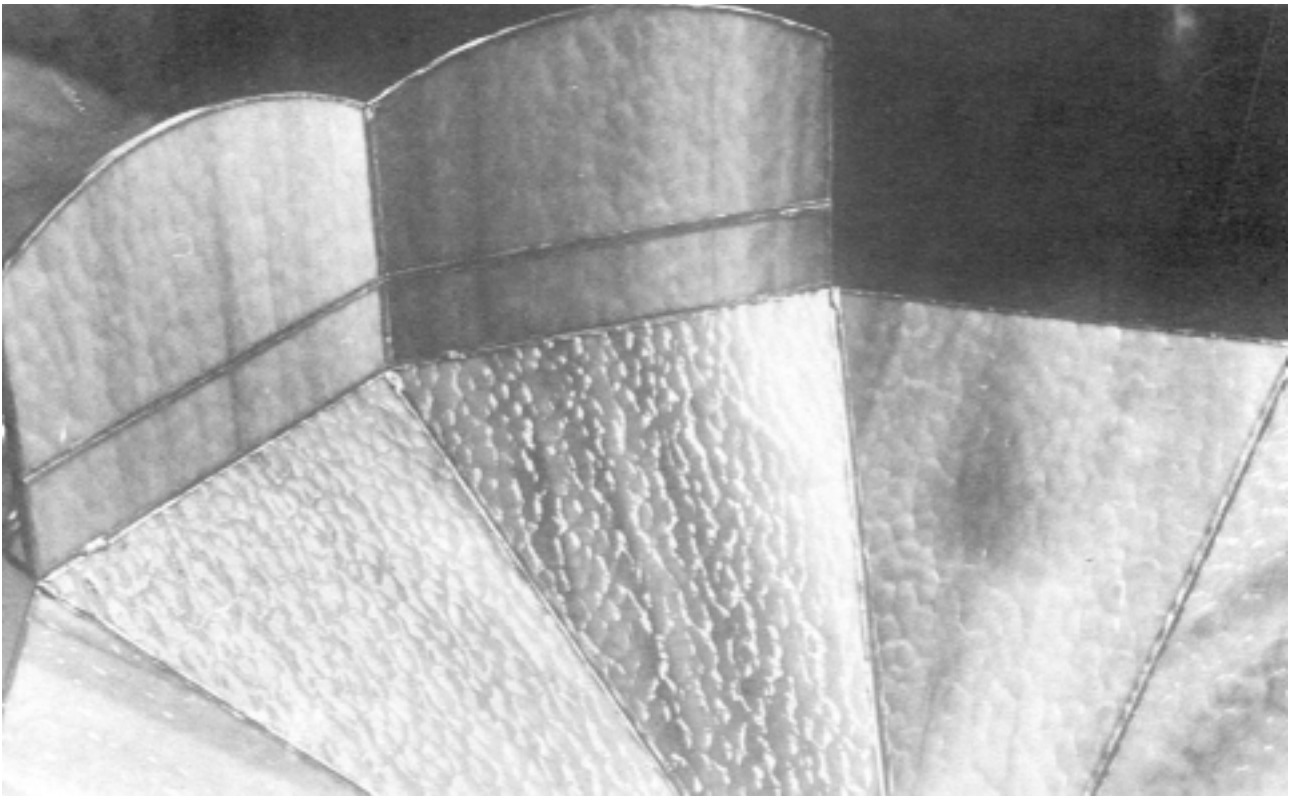

Fig 10.4
7. Tack two complete skirt (B/C) panels together at approximately the correct angle. Place these on the assembled A panel layer and line them up exactly. Do not tack these on at the corners this time as that could unsolder the previous joint. Instead, tack them about 15mm in from the corners (Fig 10.4). Use only a small amount of solder because if subsequent panels do not fit properly you will have to unsolder some joints to adjust.